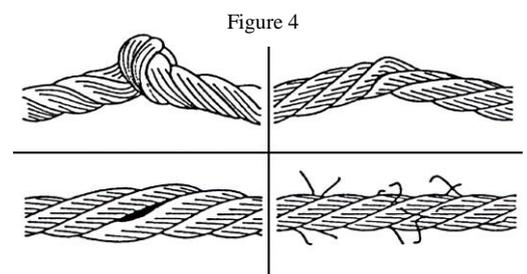

Figure 4
- Bird caging or rupture of one of the cable strands – Figure 4.